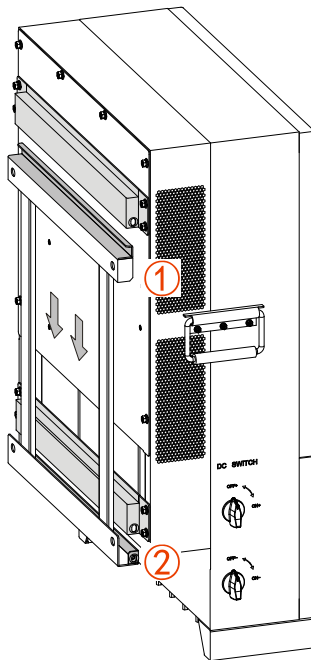

Figure3-7 Fasten the inverter to the installation holder
- Step 5 As shown in Figure3-7, uplift the inverter and insert the holes in the back of the inverter into the bulge of installation holder(total two positions) slowly. It can't release the inverter until it has been fastened firmly.